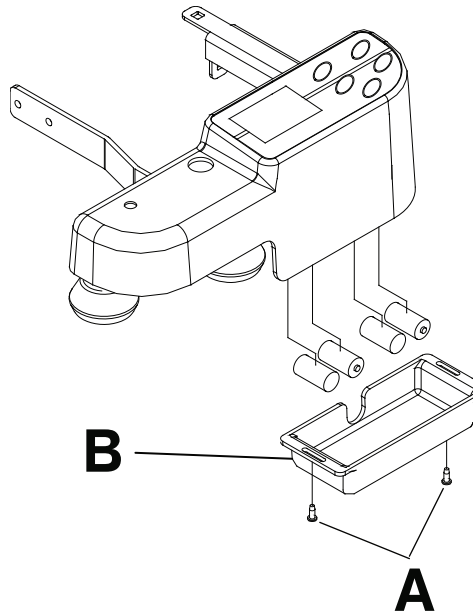

Figure 8 – Battery replacement
1. Use a #2 Phillips screwdriver to remove the 2 screws (A) that secure the battery cover (B) to the enclosure (Figure 8).